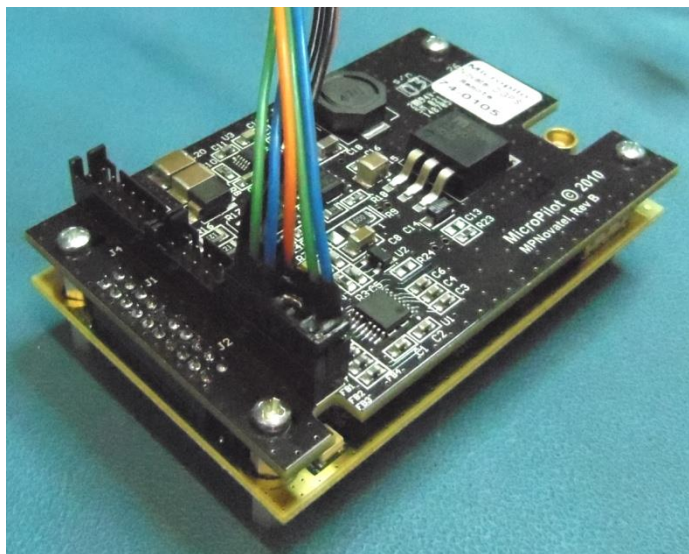
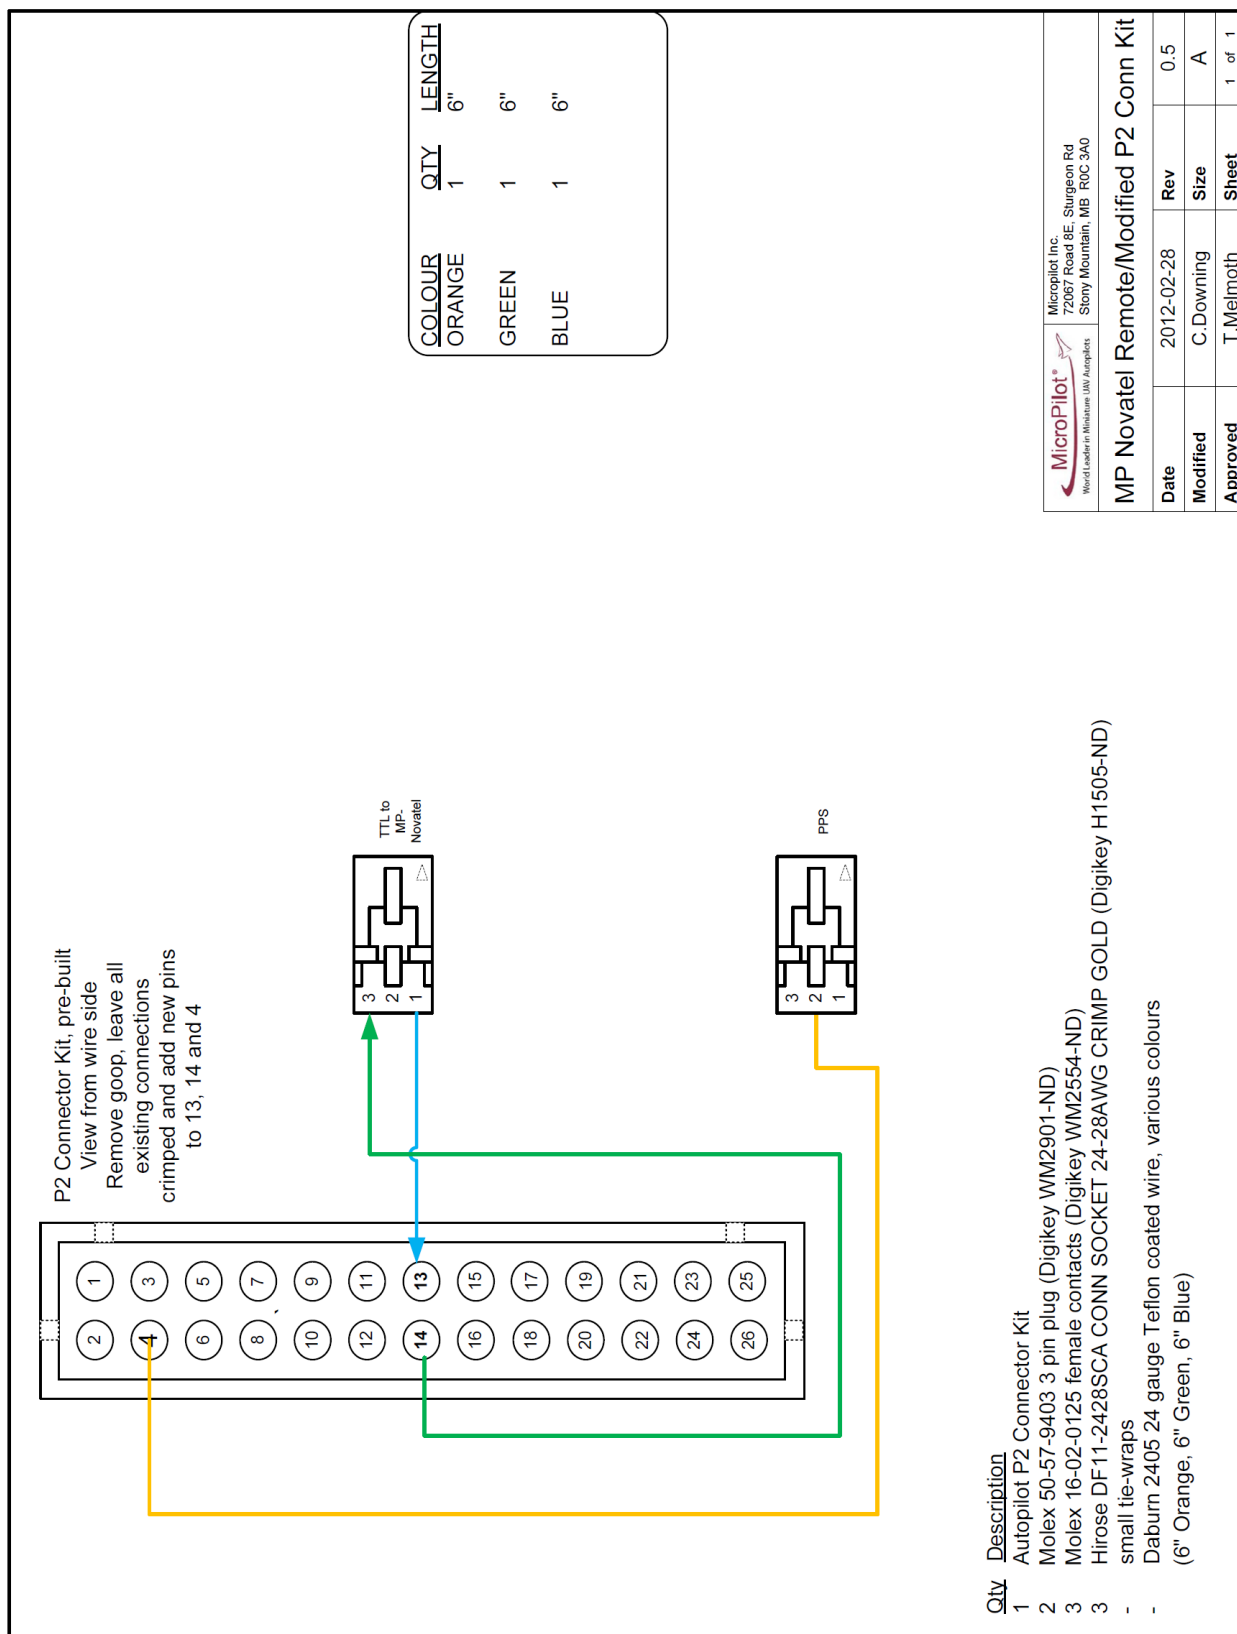
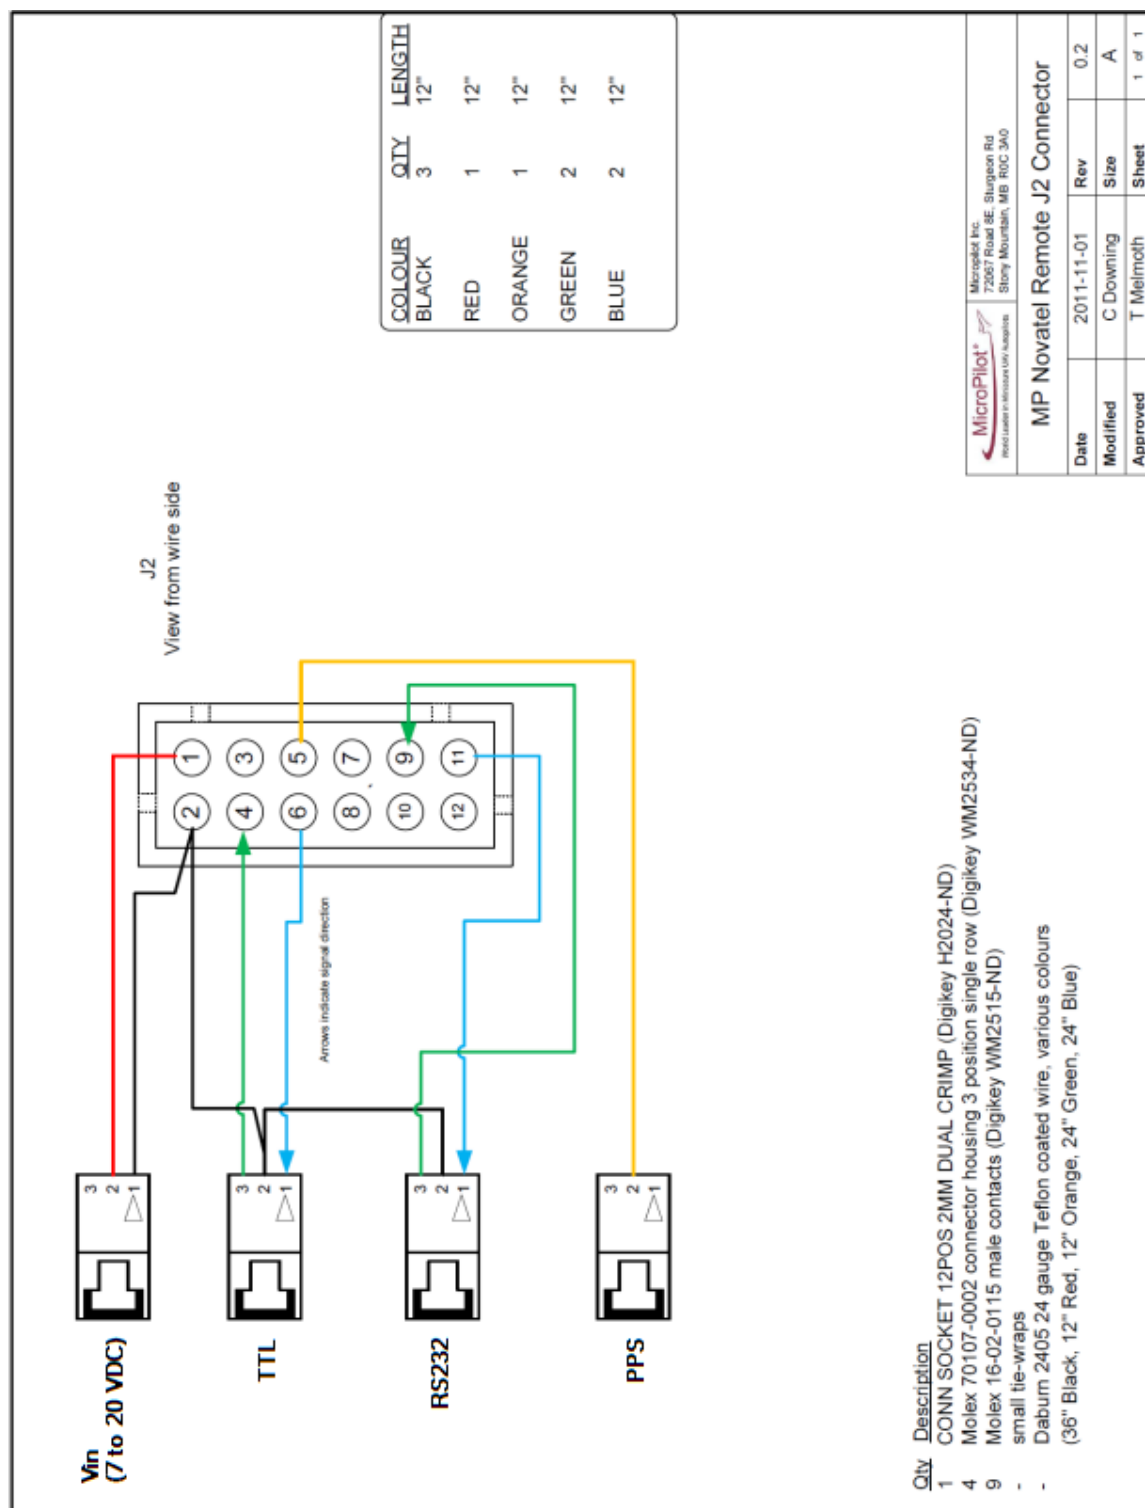

Figure 5 - J2 Connector On MP-NovAtel Interface Board
Figure 9 – MP-NovAtel Remote/Modified P2 Connector Diagram
Figure 10 – MP-Novatel Remote/J2 Connector
For wiring/connector diagrams see Figure 9 – MP-NovAtel Remote/Modified P2 Connector Diagram and Figure 10 – MP-NovAtel Remote/J2 Connector
1. Plug the MP NovAtel Remote wiring harness into the J2 connector on the board, as shown in Figure 5 - J2 Connector On MP-NovAtel Interface Board.
1. The MP-NovAtel Remote wiring harness (shown in Figure 10 – MP-NovAtel Remote/J2 Connector) plugs into the J2 connector on the NovAtel board, just the same as for board autopilots – see Figure 5 - J2 Connector On MP-NovAtel Interface Board.